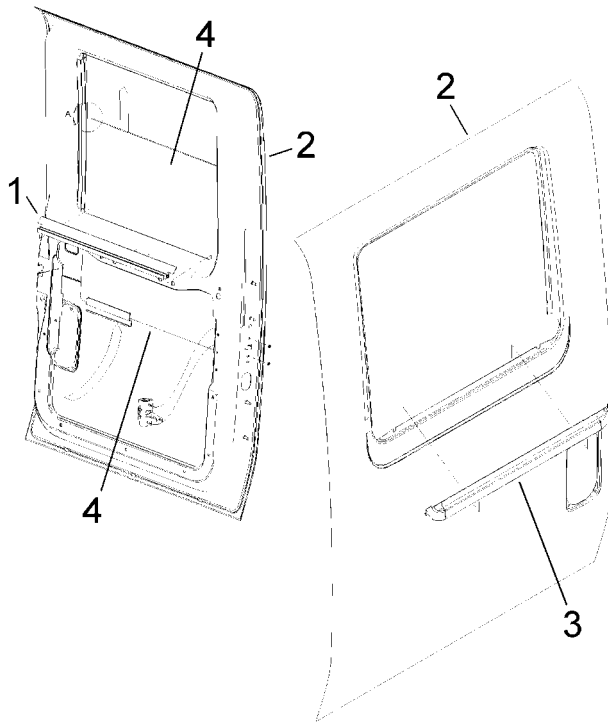

Figure 3 Remove Rear Cab Door Glass Seal and Inner/ Outer Belt
6. Remove the rear cab door glass seal and belt from the inner lower window flange and the outer lower window flange (Figure 3, Item 1 and Item 3).